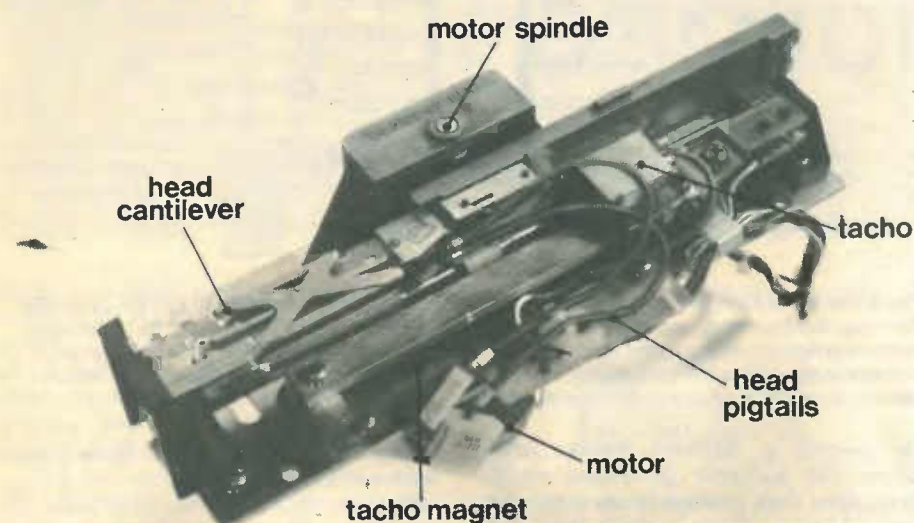

Fig. 5. One type of motor-driven positioner. This assembly illustrates how a positioner using steel wires to drive the carriage looks.
**Electric motor drive.** There are two main types—one is as shown in Fig. 5. In the first, the motor drives a leadscrew which moves the carriage as it turns. In some cases a stepping motor is used, where the stable positions of the rotor correspond to the positions of disc cylinders.